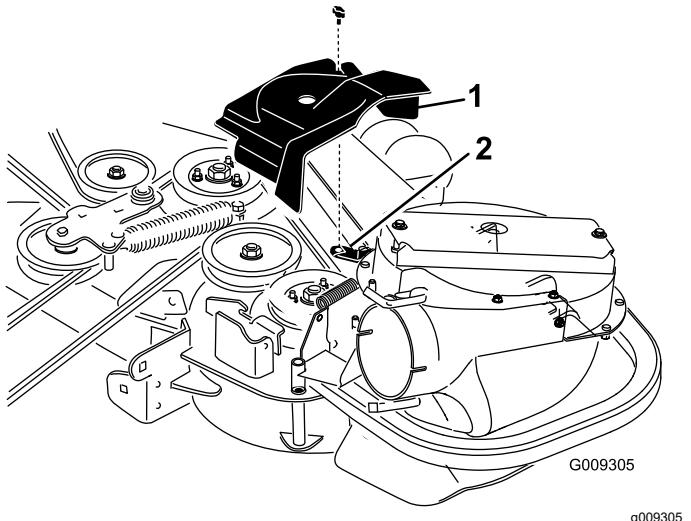
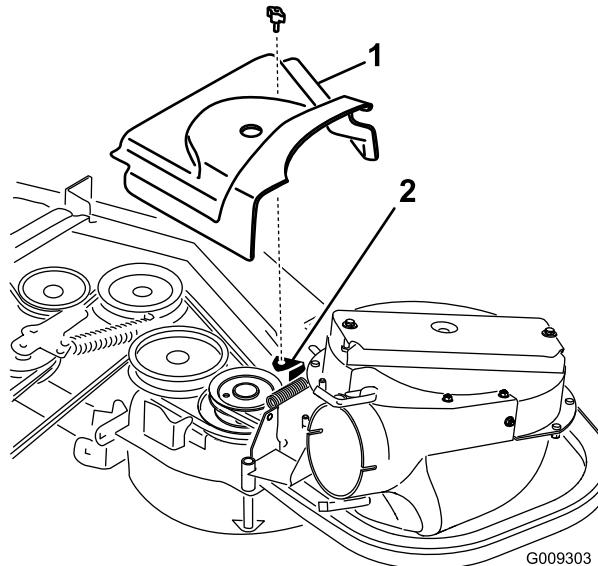

Figure 29
Figure 30
2. Install the new belt cover so that the notches on both sides go over the belt-cover supports and secure the latch (Figure 29 or Figure 30).